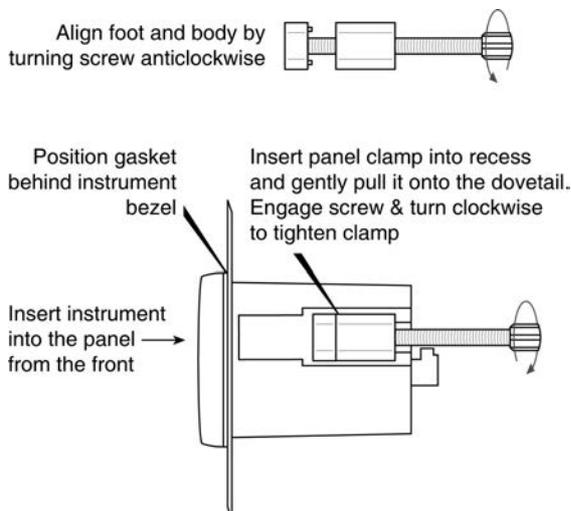

Fig 5 Fitting panel mounting clamps
- Place a clamp in the recess on each side of the indicator, pulling gently to slide it onto the dovetail as shown in Fig 5. Push the knurled screw slightly forward to engage the thread and tighten by turning clockwise until it is just finger tight. When both clamps are fitted ensure that the gasket behind the front panel bezel is correctly positioned before fully tightening the clamps to secure the instrument. The maximum recommended clamp tightening torque is 22cNm (1.95 lbf in) which is approximately equivalent to fingertight plus one half turn. **Do not over tighten.**